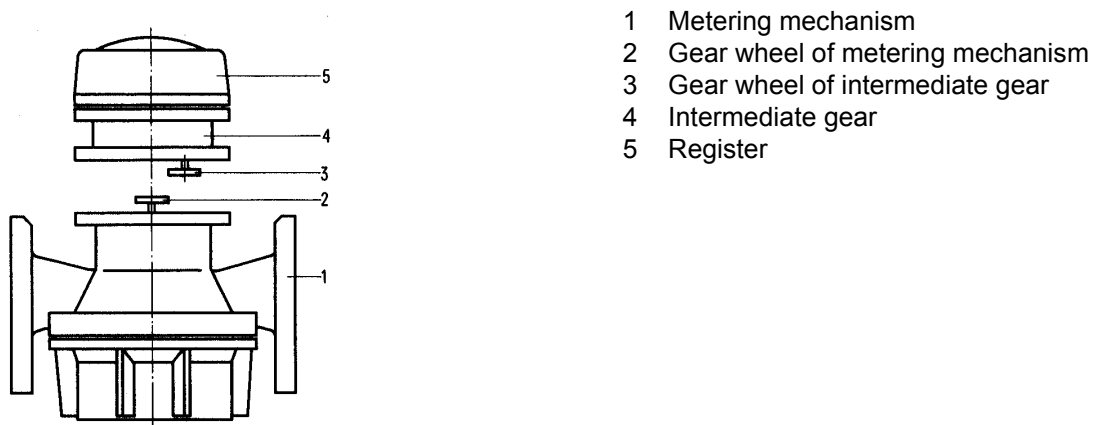

Figure 3/3 Gear wheels on metering mechanism and on register with intermediate gear
The rotary-piston meter is adjusted by replacing the gear wheels (2 and 3, Figure 3/3) arranged between the metering mechanism (1) and the intermediate gear (4). The gear wheels are not directly above the metering mechanism in the case when insulation attachments are used. Replace the gear wheels as follows:
2. Cautiously lift off the register (5) with the intermediate gear (4) from the metering mechanism flange. The gear wheel (2) of the metering mechanism flange. The gear wheel (3) of the intermediate gear are now accessible.
3. Unscrew the nut from the gear wheel (2) (right-hand thread). Lift off the spring washer and the gear wheel and read and note the designation (stamped figures or figures and letters).
4. Unscrew the nut from the gear wheel (3) (left-hand thread). Lift off spring washer and gear wheel and read and note the designation.